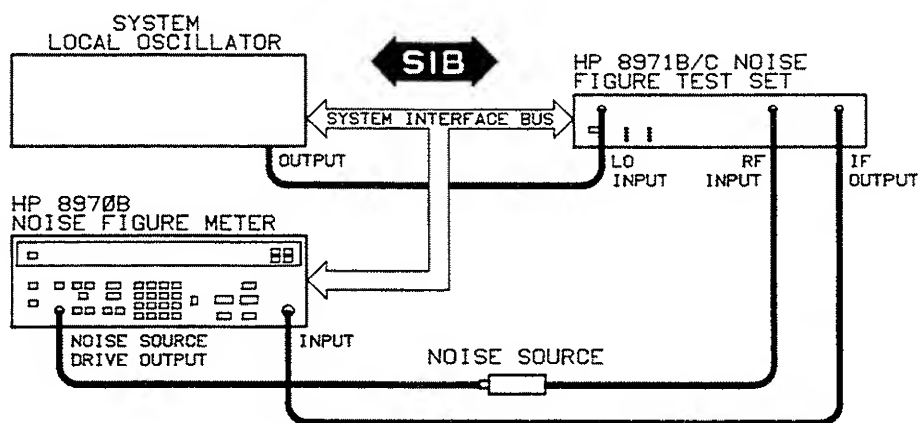

Figure 3-13. Noise Figure Measurement System Check Setup
1. Set up the Noise Figure Measurement System as shown in Figure 3-13.